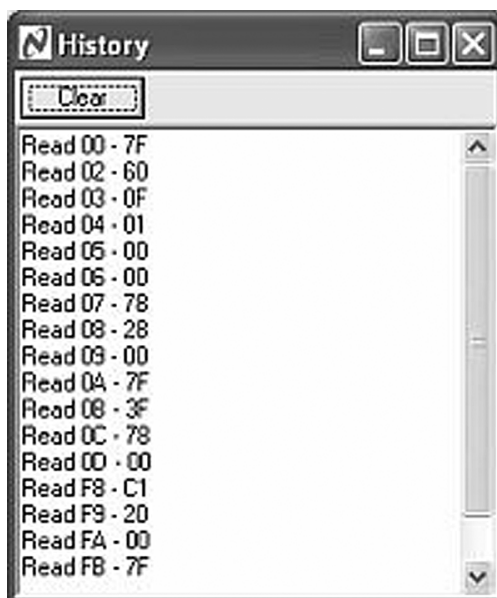

Figure 9. History Window
- History: previous register read and write actions are listed in the history window, as shown in Figure 9.